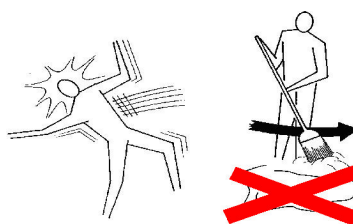

fig. 2.13
21. The operator must take care that the area and floor surrounding the machine is always clean to prevent slipping and subsequent crashes and/or the floor is dry and clean (fig. 2.13).